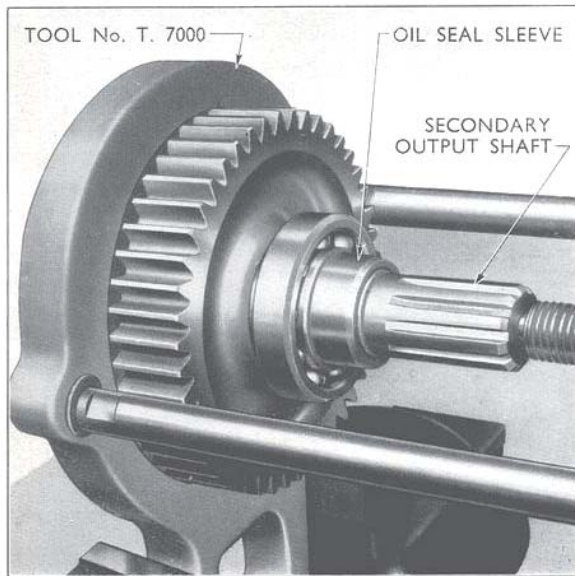

Fig. 13
- (ii) Place the output shaft assembly in Tool No. T.7000 (without adaptors) with the front face of the gear against the tool frame and the splined end of the shaft towards the centre screw of the tool. The gear, thrust washer, rear bearing and oil seal sleeve may then be withdrawn in one operation (see Fig. 13).